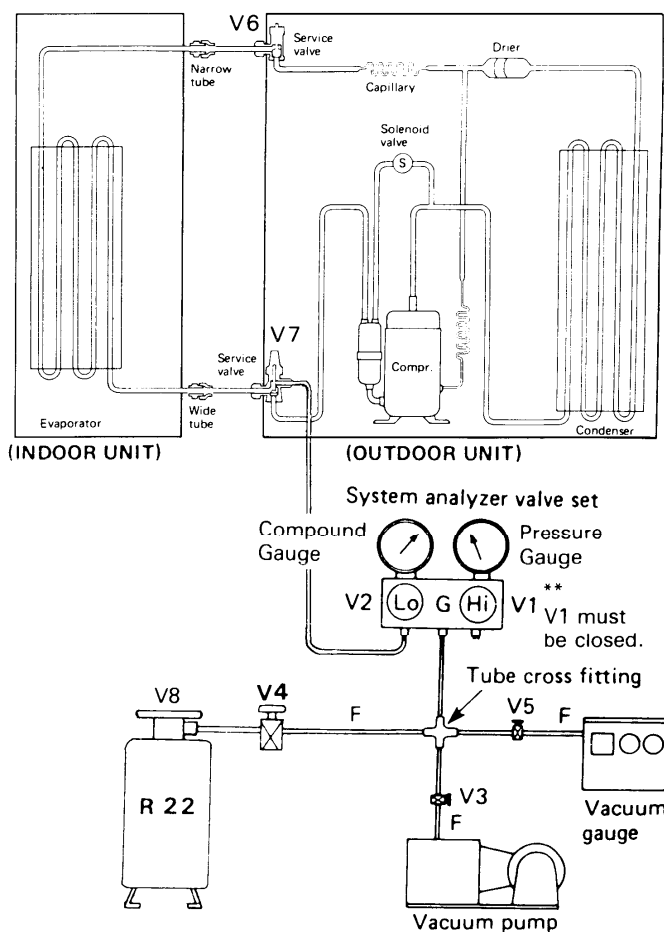

Fig. 28
- 2) Confirm that both Narrow Tube and Wide Tube service valves on the outdoor unit **V6** and **V7** are fully opened, and other valves are still closed. (Refer to Fig. 28)
- 1) Connect instrument as in Fig. 28